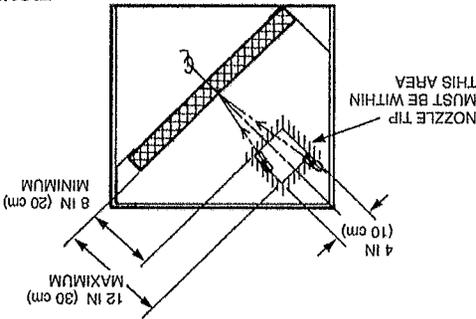

FIGURE 8
- Option 2:** The 1W nozzle must be placed perpendicular, 8-12 in. (20-30 cm) from the face of the filter and angled to the center of the filter. The nozzle tip must be within 2 in. (5 cm) from the perpendicular center line of the filter. See Figure 8